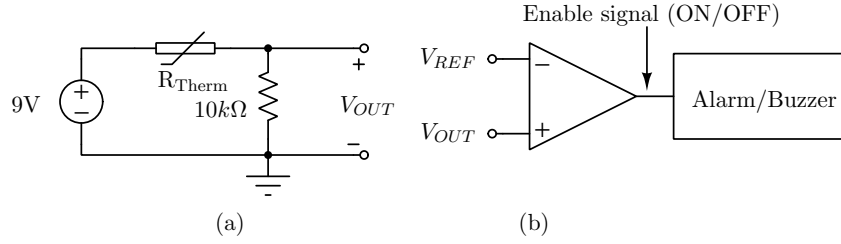

Fig.S4(a) A thermistor based temperature-to-voltage conversion (b) A comparator enabled alarm system.
where  $T$  is the temperature in  $^{\circ}C$ . A simple circuit to convert the  $\Delta T \rightarrow \Delta R \rightarrow \Delta V$  is shown in Fig.S4(a). As the temperature changes from  $25^{\circ}C$  to  $100^{\circ}C$ ,  $V_{OUT}$  increases from 4.5V to 8.1818V ( $=V_{REF}$ ). We can compare the  $V_{OUT}$  value to 8.1818V to enable the alarm as shown in Fig.S4(b). One can generate the  $V_{REF}$  from the 9V battery using a resistive divider of  $10k\Omega$  and a  $1k\Omega$ .
5. The temperature-to-voltage conversion circuit shown in Fig.S4(a) can also be used here.